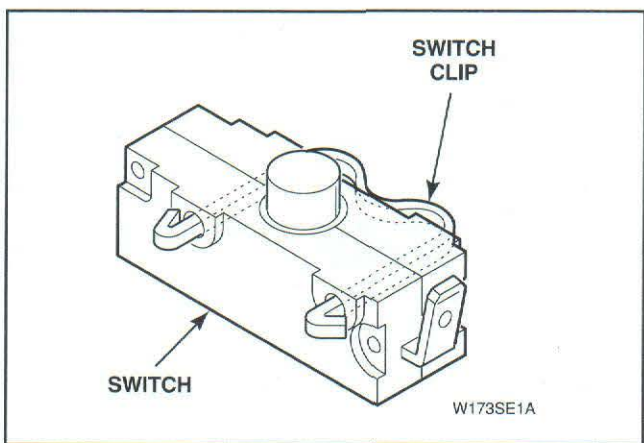

Figure 32
- Remove switch clip from old switch and place through holes in new switch, *Figure 32*.